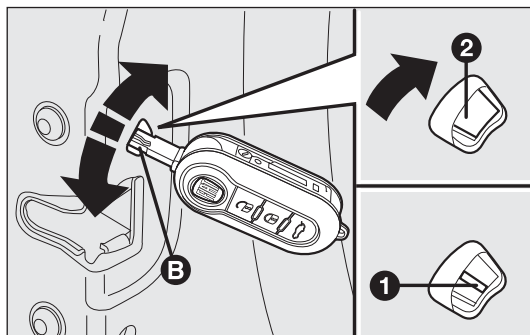

fig. 89
**REAR DOORS EMERGENCY LOCK DEVICE (5-door versions) fig. 89**